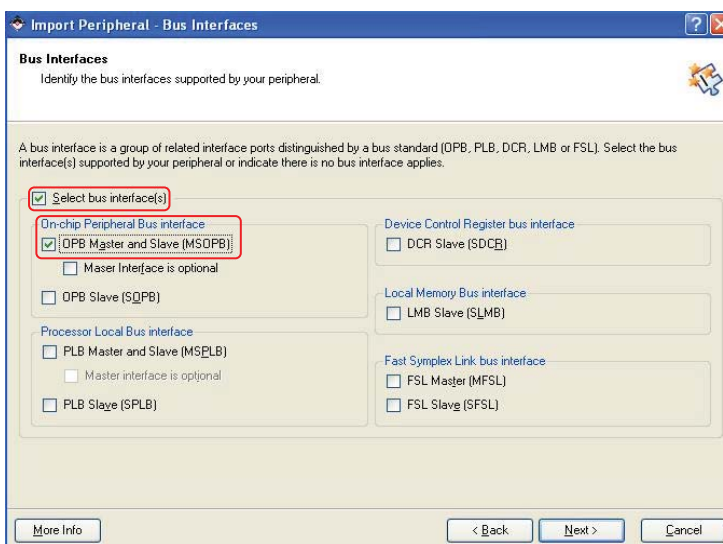

Figure 25: Selecting the OPB as a Bus Interface
8. In the Bus Interface window, make the selections as shown in Figure 25. Because this is an OPB slave core with a DMA master IP, specify the bus interfaces to be OPB Master and Slave (MSOPB).